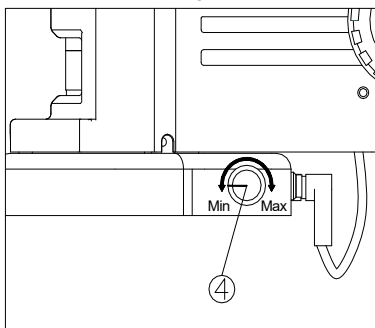

Fig.7
- 2) Rotate the light adjustment knob④ to adjust the illumination brightness. Rotate the light adjustment knob clockwise to raise the brightness, while counter-clockwise to decrease the brightness. (See Fig.7)